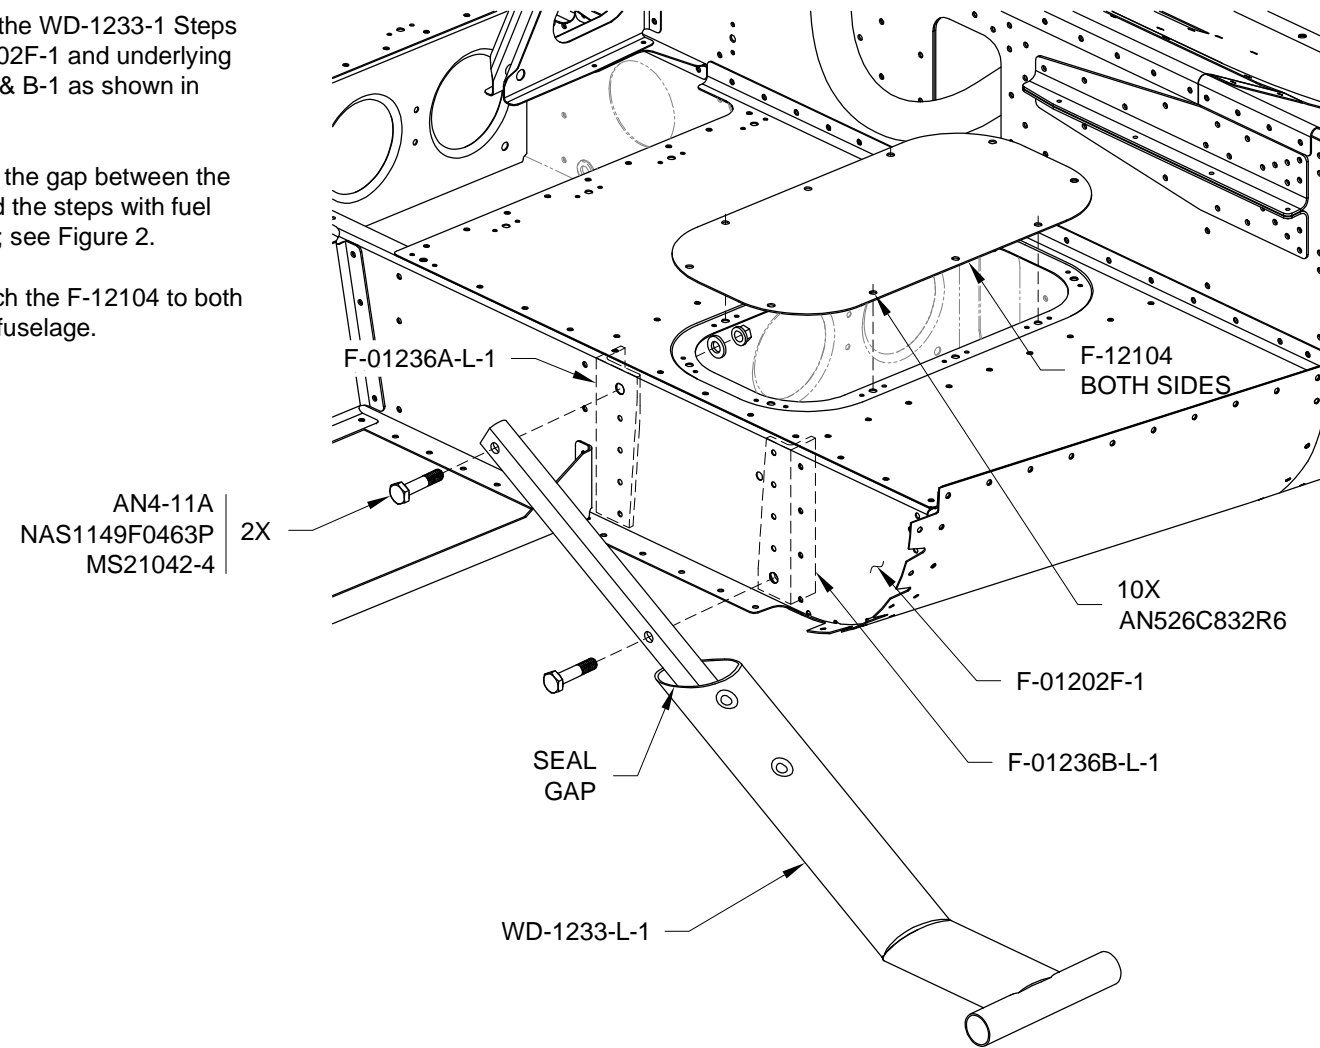

FIGURE 2: ATTACHING THE STEPS (SOME SKINS NOT SHOWN)
Step 4: Seal the gap between the fuselage and the steps with fuel tank sealant; see Figure 2.